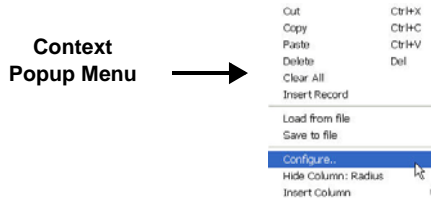
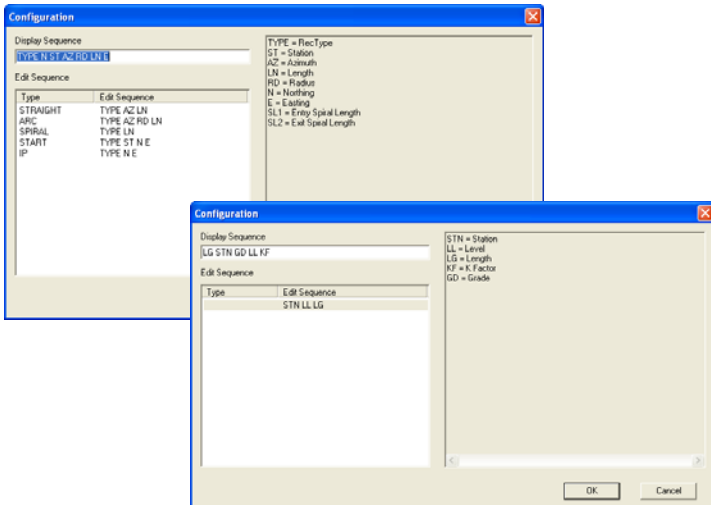

Figure 13-20. The Context Popup Menu – Configure Menu Option
Figure 13-21. Edit Sequence Dialog Box – Alignment and Profile Tab
To define the content and order of entry, right-click the mouse on the spreadsheet (Figure 13-19) to display the **Context** popup menu (Figure 13-20 on page 13-19).
4. Click **Configure**. The *Configuration* dialog box appears (Figure 13-21).
From the **Context** popup menu (Figure 13-21 on page 13-19) you can do the following:
- Specify the editing sequence of any element (type) by using the **Configure** menu option (Figure 13-20 on page 13-19) on the Context popup menu (Figure 13-21) and then selecting any option under the *Edit Sequence* panel.
Enter parameters in the *Display Sequence* field from the *Configuration* dialog box (Figure 13-20 on page 13-19).